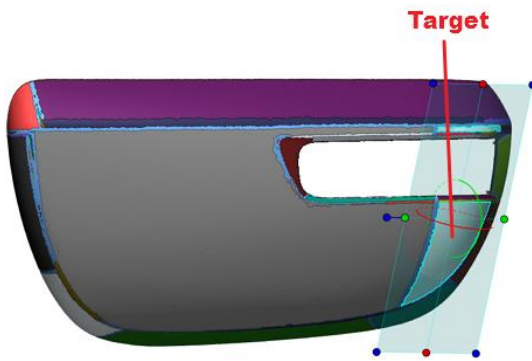

Figure 181
- Select the target **Region** shown in **Figure 181**.